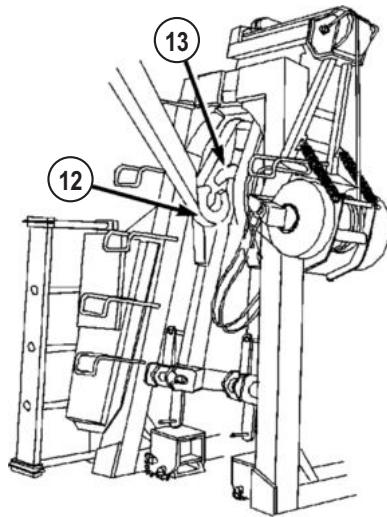

*Figure 5.*
9. Ensure BAP hold-down locks (8) are disengaged (handle pulled out).
**PERFORM PROCEDURE - Continued***Figure 5.***CAUTION**
10. Set PTO ENGAGE switch (9) to ON position. Indicator light (10) will illuminate.